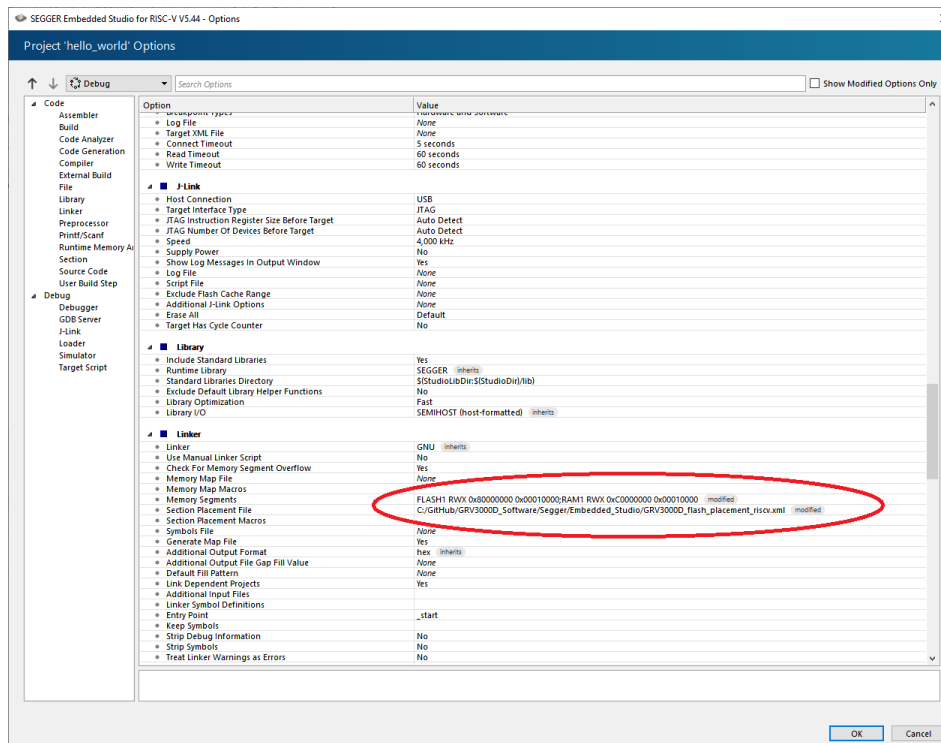

Figure 6-9 Embedded Studio, Linker Options
- Under Linker, set the Memory Segments to "FLASH1 RWX 0x80000000 0x00010000;RAM1 RWX 0xC0000000 0x00010000", as shown in Figure 6-9. This memory segment matches the memory allocation defined in Table 3-6.
- As illustrated in Figure 6-9, under Linker, set the Section Placement File to the one shown in List 6-1. Basically, this xml file will put .text and .init sections into the I-TCM, and put the rest sections into D-TCM.